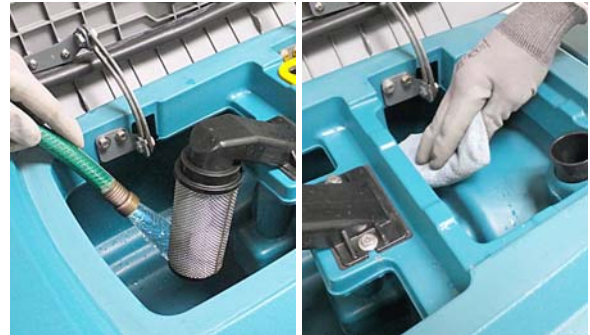

FIG. 79
5. Rinse out the recovery tank with clean water and wipe clean of any soil residue (Figure 79).